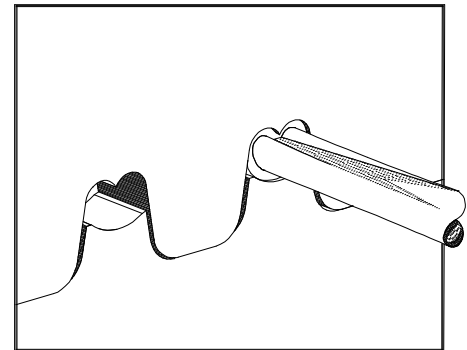

Figure 3
3. Insert the proper wire over the terminal and up against the locator blade. See Figure 3. On tools without locators line the wire up with the conductor and insulation grips visually.